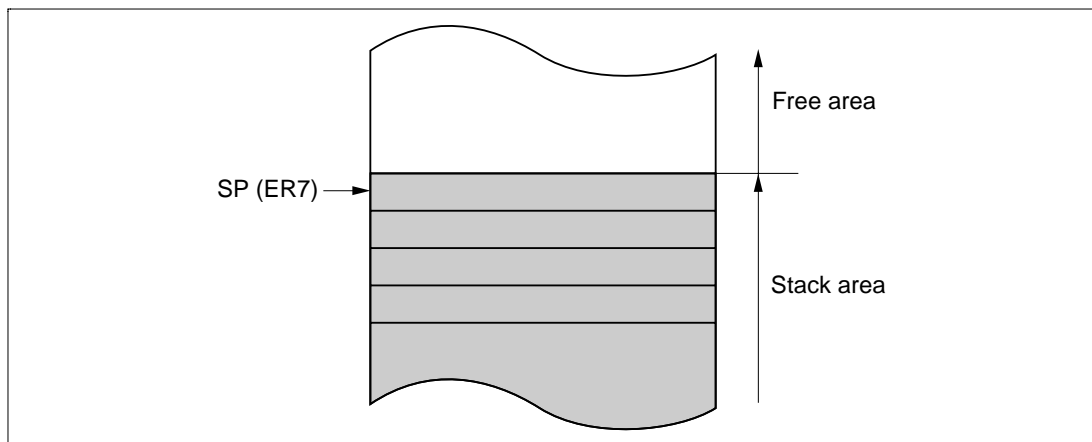

Figure 2-9 Stack
General register ER7 has the function of stack pointer (SP) in addition to its general-register function, and is used implicitly in exception handling and subroutine calls. Figure 2-9 shows the stack.